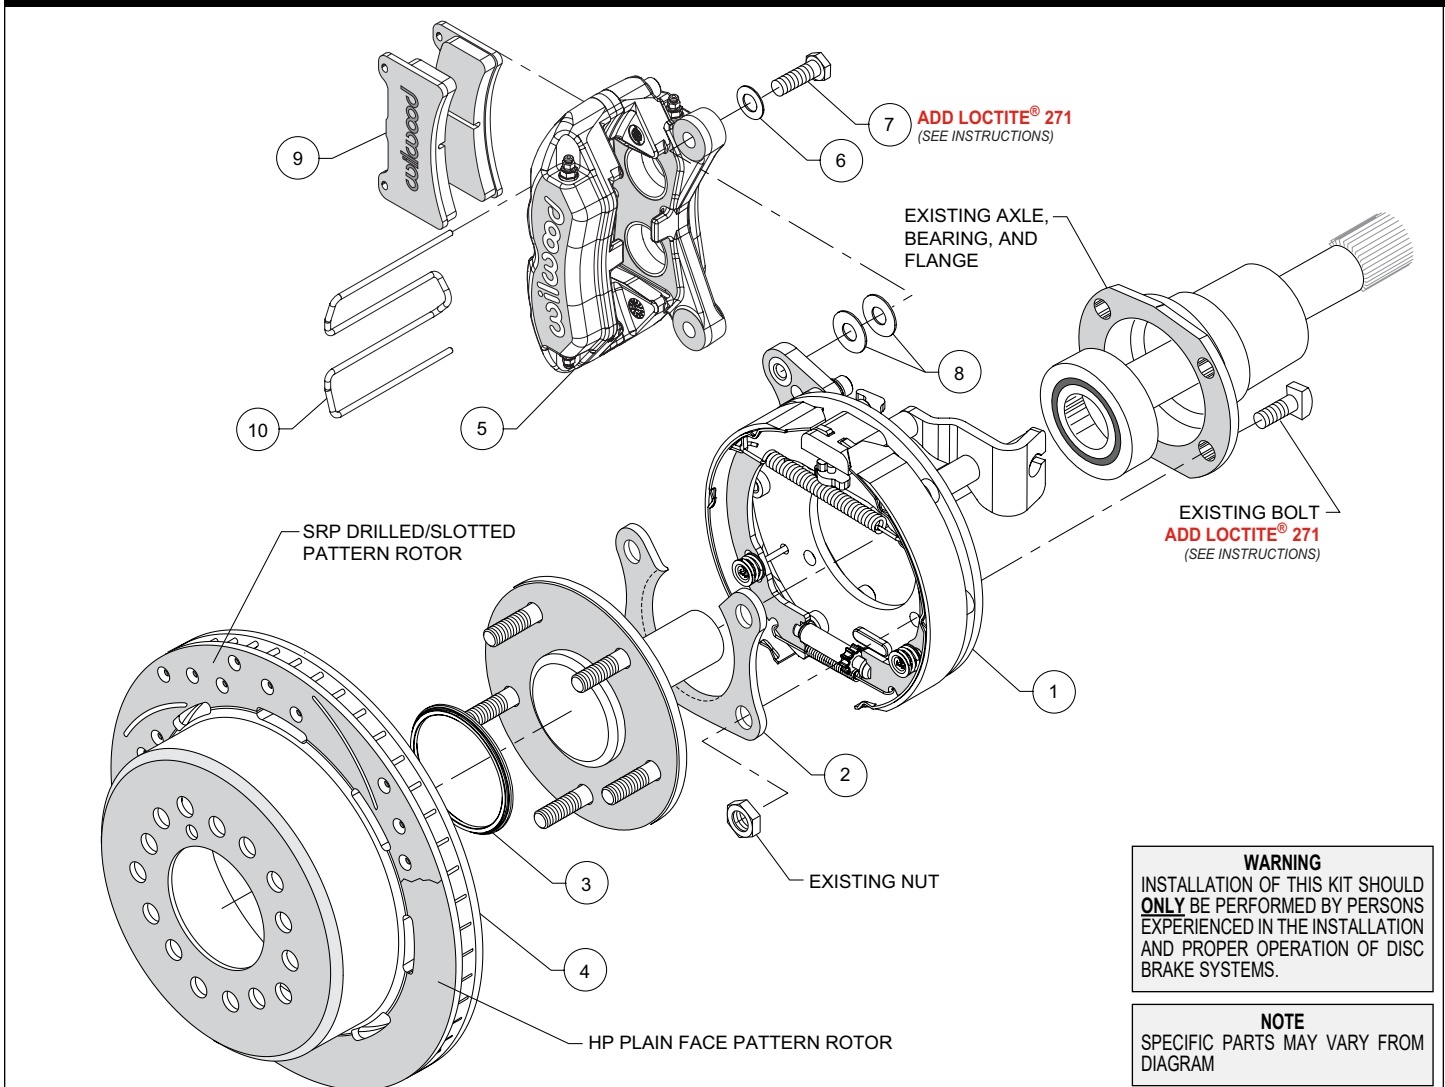
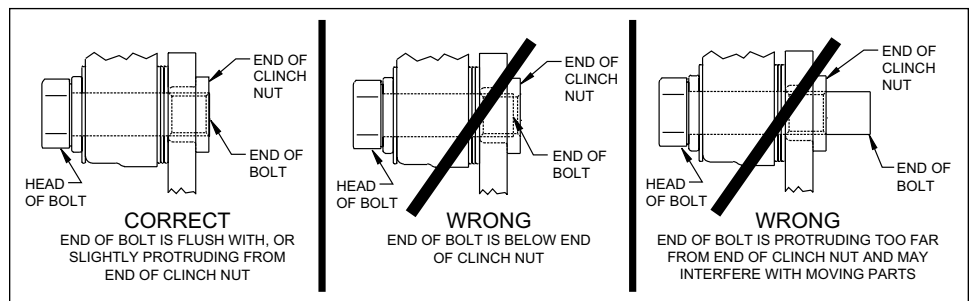

Figure 1. Typical Installation Configuration
Figure 5. Clinch Nut Engagement Diagram
**NOTE:** Numbers in parenthesis refer to the parts list and Figure 1 on the preceding pages.
**CAUTION:** All mounting bolts must fully engage clinch nuts. Be sure to check that all bolts are either flush or protruding through flanged side of clinch nut after shimming, Figure 5.
- Orient the bracket assembly (1) as shown in Figure 1 and Photo 1 and slide it onto the axle. Insert the axle and bracket into the axle housing. Ensure that the bracket assembly backing plate fits flush against the axle housing flange.
- Install the bearing retainer (2) with the opening pointing upward and the lip facing inward (toward the bearing), as shown in Figures 1 and 4, and Photo 2. Secure retainer and bracket assembly to the axle housing flange using the Original Equipment Manufacturer (OEM) bolts and nuts, Figure 1. Apply red *Loctite*® 271 to the OEM bolt threads and torque to OEM specifications.
- Slide the rotor registration adapter (3) onto the axle register on the axle flange with the smaller O.D. facing toward the rotor/hat (4), Photo 3. Align the correct hole pattern in the rotor/hat with the stud pattern on the axle flange and slide into place, Figure 1 and Photo 4. **NOTE:** The rotor/hat must fit flush against the axle flange or excessive rotor run out may result. Install three lug nuts (finger tight) to keep the rotor/hat assembly in place while continuing with the installation. **NOTE:** Some OEM and after market axles come with stud sizes larger than 0.50" diameter. Verify stud size and have a qualified machine shop drill the bolt circle of the hat/rotor to the correct stud size, if necessary.
- NOTE:** Please reference the caution statement at the beginning of the assembly instructions. Mount the caliper (5) onto the caliper mounting bracket (1) using bolts (7) and washers (6), as shown in Figure 1. Initially place two .035" thick shims (8) on each bolt between the caliper and the bracket, Photo 5. Temporarily tighten the mounting bolts and view the rotor (4) through the top opening of the caliper. The rotor should be centered in the caliper, Photo 6. If not, adjust by adding or subtracting shims between the bracket and the caliper. Always use the same amount of shims on each of the two mounting bolts. **NOTE:** The end of each bolt must be flush with or slightly protruding from the head of the clinch nut, as shown in Figure 5. If necessary place spare shims between washer (6) and caliper mounting ear to achieve the proper clinch nut engagement. Once the caliper alignment and clinch nut engagement are correct, remove the bolts one at a time, apply red *Loctite*® 271 to bolt threads, and torque to 40 ft-lb.